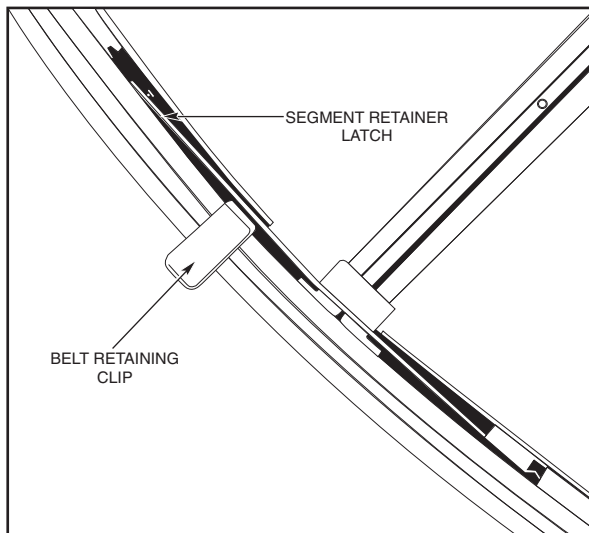

Fig. 171 — Detail of Belt Retaining Clip and Segment Retained Latch
7. At pulley location, insert the right angle belt retaining clip near spoke and between segment retainer latch and wheel rim as shown in Fig. 171.